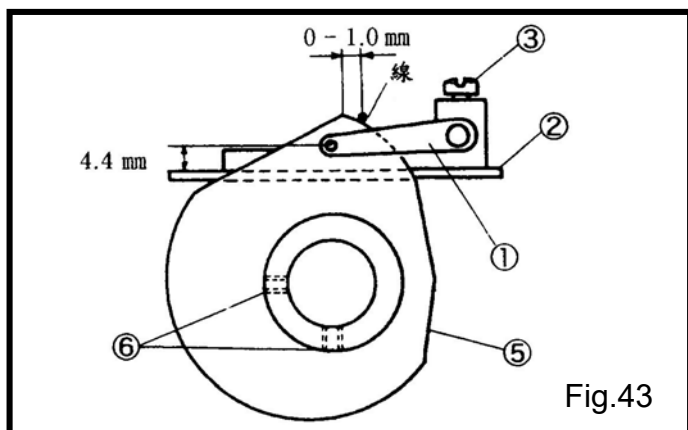
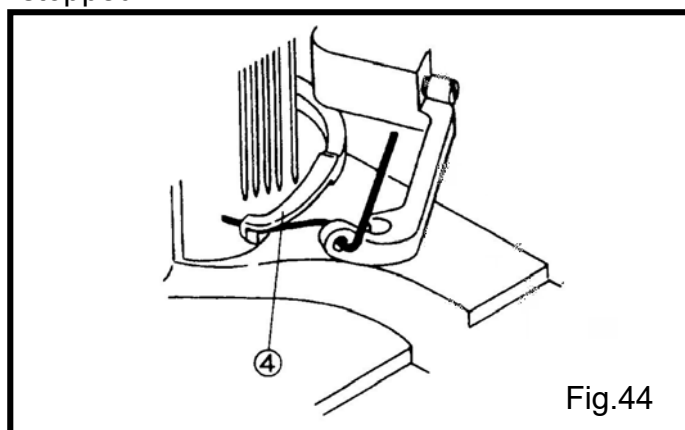

Fig.43
Fig.44
支撐板②和過線片①的標準距離是 4.4mm。放鬆螺絲③再上下調整移動線孔。(Fig.43)
- 增加線量時，將過線片①往下移。
- 減少線量時，將過線片①往上移。
當大的上勾針④勾到小勾針上的線時(Fig.44)，網線和凸輪的尖端距離為 0-1.0mm 之間，調整凸輪⑤時鬆開螺絲⑥。(Fig.43)
Make the standard distance from the top the eyelet supporting plate ② to the thread take-up eyelet ① eye to 4.4 mm. Loosen the screw ③ and move the eyelet ① up or down to adjust it.(Fig.43)
- To increase the top cover thread take-up amount, move the eyelet ① downward.
- To decrease the top cover thread take-up amount, move the eyelet ① upward.
The moment the top cover thread is hooked with the top cover thread hook ④ (Fig. 44), the thread is held at the point 0-1.0 mm apart from the top of the take-up ⑤. Loosen the screws ⑥ to adjust it.(Fig.43)